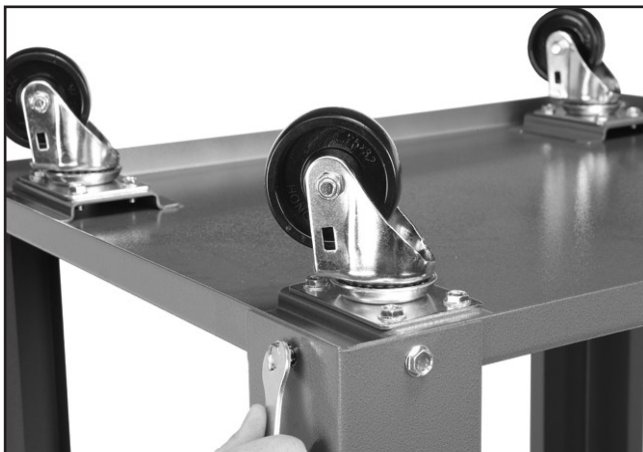

Figure 6. Attaching base to legs.
3. Attach the base to the legs using eight $\frac{5}{16}$ -18 x $\frac{1}{2}$ " flange bolts, as shown in **Figure 6**.